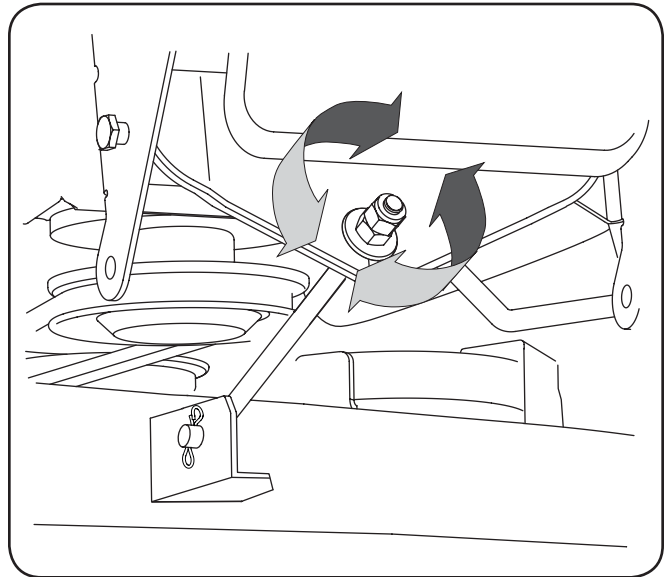

Figure 6-5
1. Loosen (thread outward) the hex lock nut on the end of the deck hanger rod. See Figure 6-5.
3. To *lower* the front of the deck, loosen (thread outward) the hex nut, away from the front hanger bracket. See Figure 6-5.